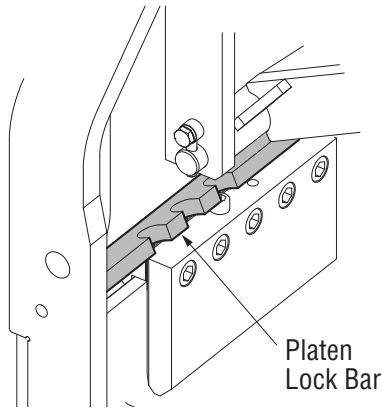

Figure 6-11, Platen Repositioning
1. Position platens side by side on the floor using the platen lock bar (Figure 6-11) as a template. Space the platens at the desired width. If necessary, remove graphite coating (such as Slip Plate No. 3) from platens with solvent or paint remover. Refer to product label and the manufacturer's instructions.
7. Install the platen lock bar and position the platens to line up with their corresponding lock notches on the bar. Install the M12 socket head bolt into the top of the platen heel. (Figure 6-11)